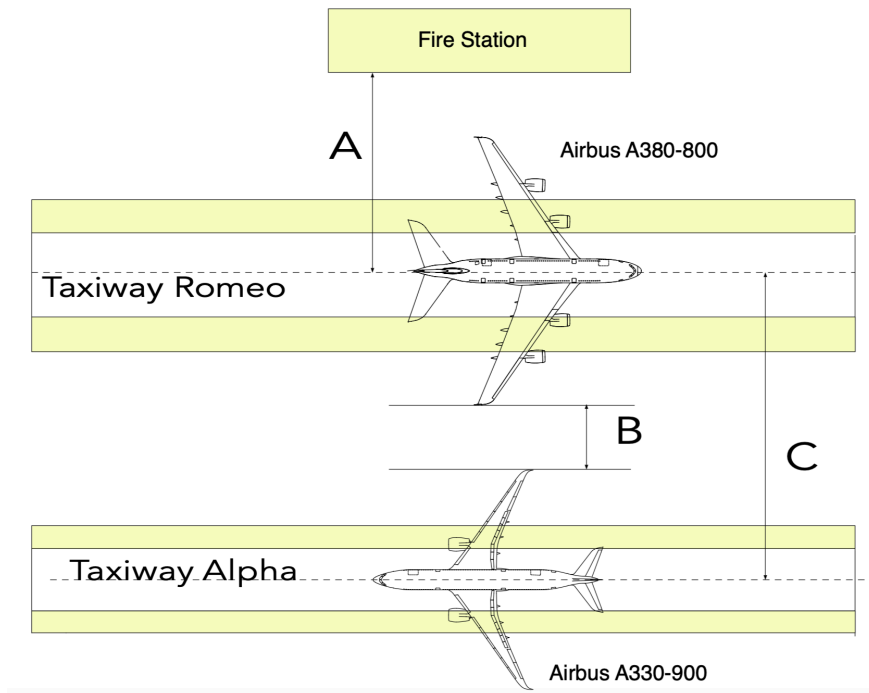

Figure 3. Taxiway Design for Problem 3.
An airport is expected to have two parallel taxiways as shown in Figure 3. Taxiway Romeo is designed for aircraft of the size of the Airbus A380. Taxiway Alpha is limited to aircraft such as the Airbus A330-900.
- Specify the dimensions in Figure 3 to satisfy the FAA design requirements. Before solving the problem, read Section 4.5.2 of the FAA Advisory Circular 150/5300-13B.